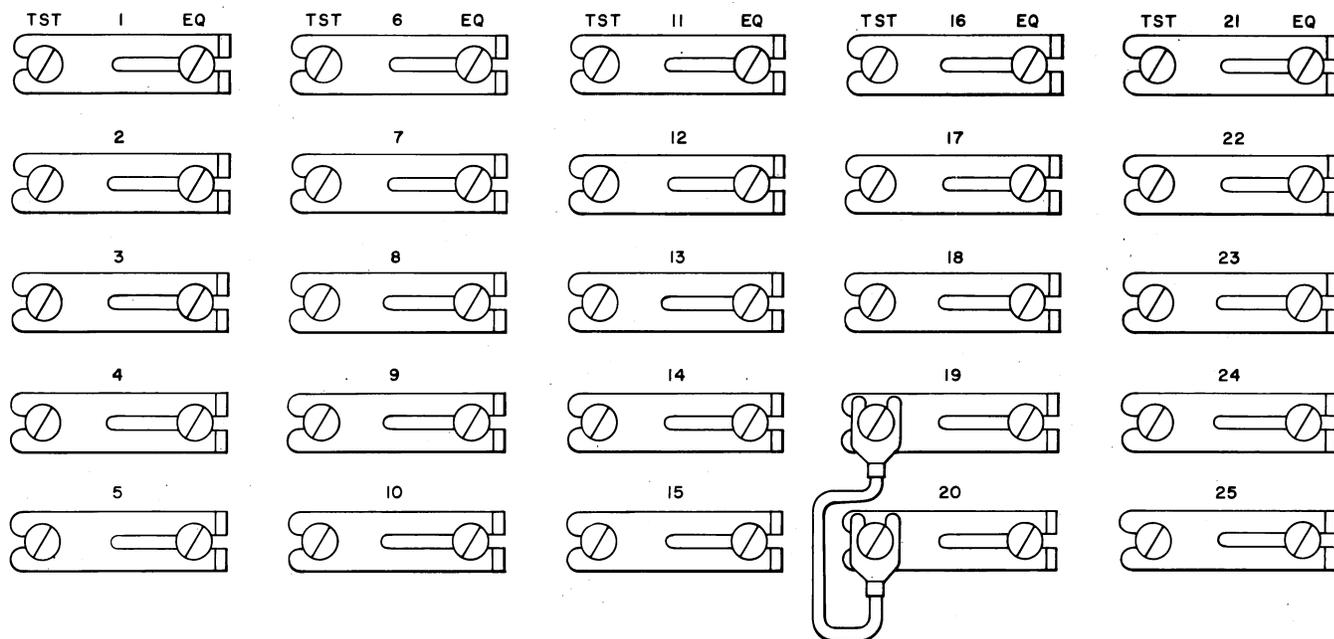

Fig. 3—Interface Test Adapter Connection
3.04 Arrange the interface test adapter as shown in Fig. 3. The business machine should be disconnected and the interface test adapter connected in its place.